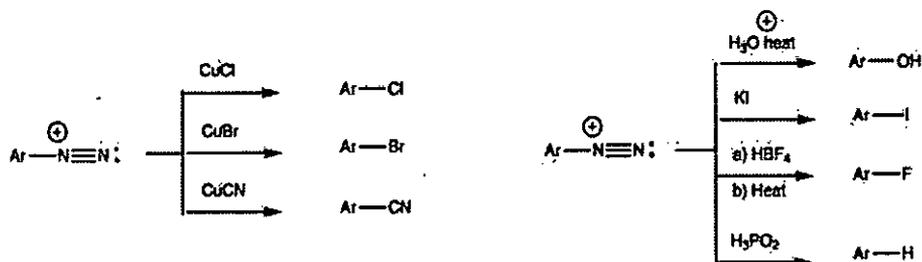

Fig. 12. Reactions of diazonium salts.
Once the diazonium salt has been formed, it can be treated with various nucleophiles such as Br^- , Cl^- , I^- , $-\text{CN}$ and $-\text{OH}$ (Fig. 12). The nucleophile displaces nitrogen from the aromatic ring and the nitrogen which is formed is lost from the reaction mixture as a gas, thus helping to drive the reaction to completion. Those reactions involving Cu(I) are also known as the Sandmeyer reaction.